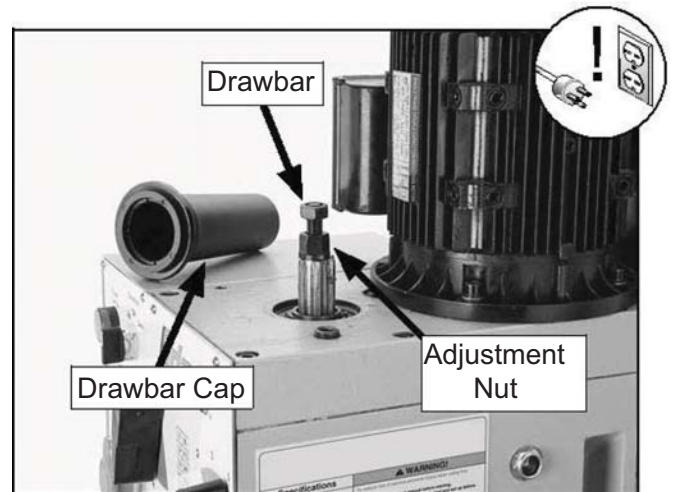

Figure 22. Drawbar components.
2. Remove drawbar cap as shown in Figure 22.
Note: Drawbar height inside spindle can be changed by rotating the adjustment nut (see Figure 22).